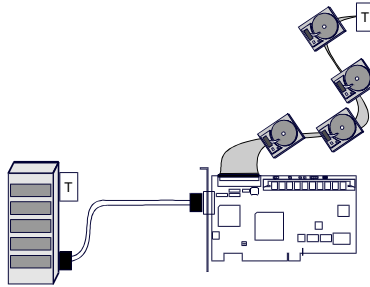

Figure 5. Connecting Internal and External Drives
7. Connect a wide, high-density, 68-pin SCSI ribbon cable to the internal SCSI connector on the AcceleRAID 150 or 250 and connect the other cable connectors to any internal SCSI drives as required. See Figure 5.
8. Connect an active terminator to the end of the SCSI ribbon cable at the end farthest from the controller. See Figure 5.
9. Connect a wide, round, 68-pin Very High Density Connector Interface (VHDCI) cable to the external SCSI connector on the AcceleRAID 150 or 250 and connect the other end of the cable to an external drive cabinet as required. See Figure 5. External drive cabinets usually have termination built into the end of the SCSI bus. Check the documentation that comes with your drive cabinet to be sure this is the case. If not, use an active terminator at the end of the bus.